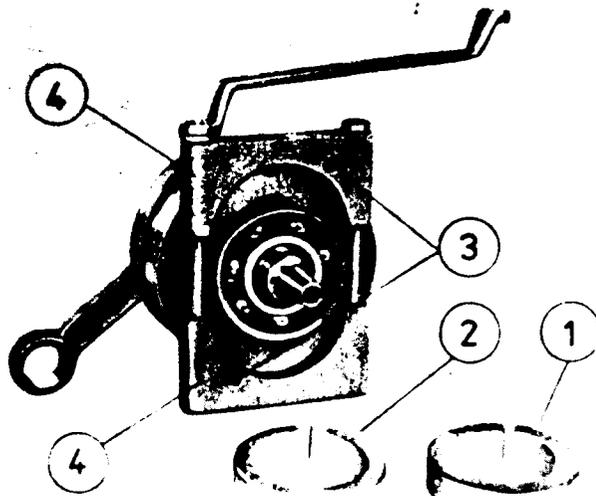

Fig. 7. Applying the ball-bearing extractor
When the crankshaft bearings have been left on the crankpins during the dismantling of the crankshaft, they can be pulled off, as is shown in the Figs. 7 and 7a, by means of the ball-bearing extractor 22-50.431 and the rings (1) 22-50.432 (regarding the engines MM 125/2 - 150/2) and (2) 22-50.434 (regarding the engines MM 125/3 - 150/3) on the side of the dynamo. The clamping pieces (4) have to be pressed between crankshaft and bearings by means of a vice or the two screws M 8 × 100.